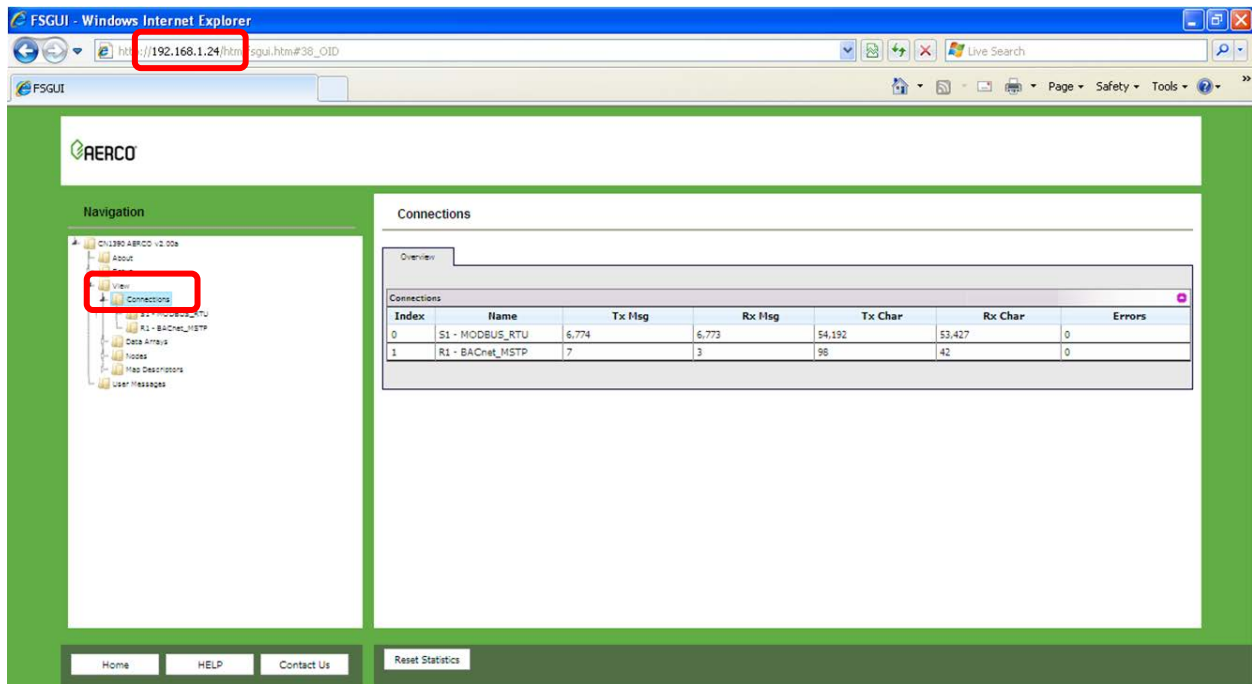

Figure E-1: Error Messages Screen
- Click on **View** and then on click on **Connections** (see Figure E-1).